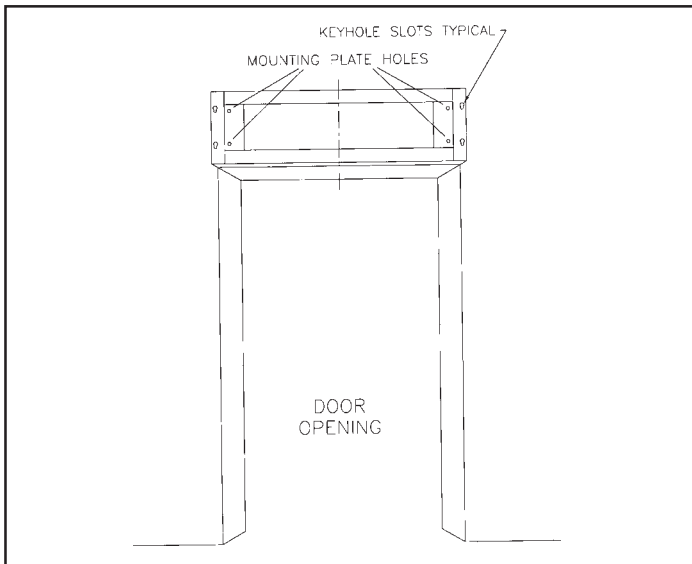

FIGURE 6 - Wall Mounting Plate, Wall Marking
- D. Mark the wall in the centers of the (4) ½" round holes provided on the mounting plate. **See Figure 6.** If the holes on the mounting plate are not located where suitable support is available for the unit, drill new holes in the space provided on the mounting plate.